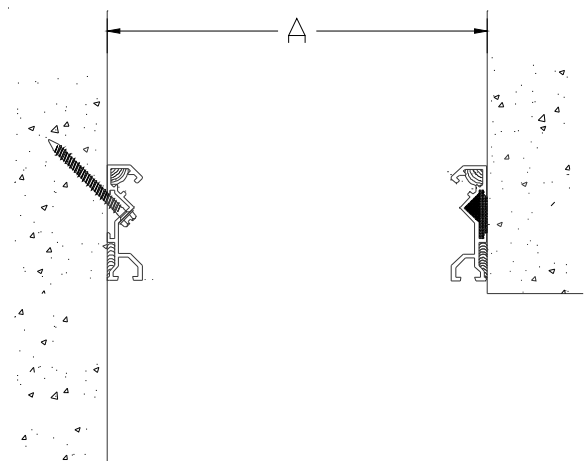

Figure 9
STEP 14. Select the silicone sealant, by others, and the back seal. Fill the installed base members' back seal retainer tracks with sealant, see Figure 9.